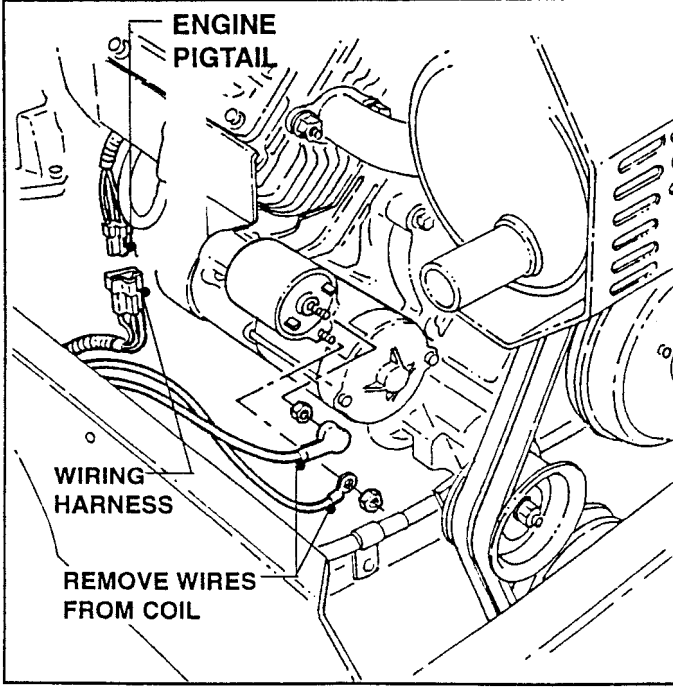

FIGURE 4.3
B. Disconnect engine pigtail from wiring harness. See Figure 4.3.
- C. Remove wires from coil. Refer to Figure 4.3.